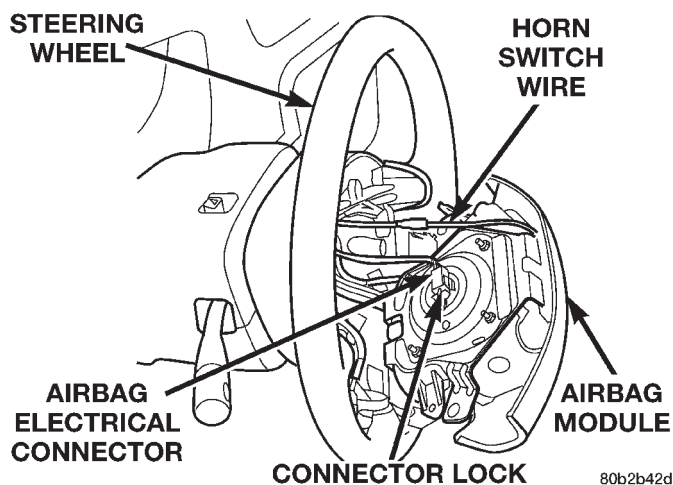
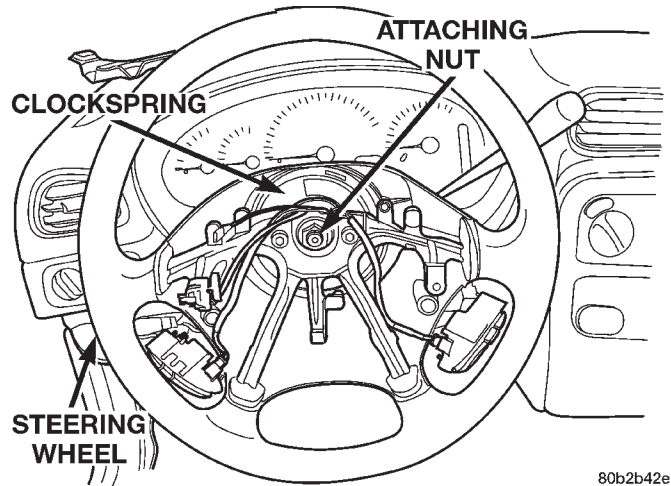

Fig. 11 Airbag Module Electrical Connections
Fig. 12 Steering Wheel Attaching Nut
(11) Remove the airbag module from the steering wheel.
(12) Remove the connector lock from the airbag electrical lead connector (Fig. 11). Connector lock is removed by pulling it straight out of the airbag connector. **Do not twist the connector lock when removing it from the connector.**
(13) Disconnect the electrical connector (Fig. 11) from the back of the airbag module. Connector is removed by pulling it straight out of the airbag module. **Do not twist the connector when removing it from the airbag.**
(14) Remove the horn switch wire (Fig. 11) from the clockspring horn wire.
(15) Remove the steering wheel attaching nut (Fig. 12) from the steering column shaft.
(18) Feed the clockspring wiring leads through the steering wheel (Fig. 12). Position steering wheel on shaft of steering column, making sure the master serration in the wheel hub and on the steering column shaft line up.
(19) Install steering wheel to steering column shaft retaining nut (Fig. 12) and tighten until the steering wheel is fully installed on the shaft. Tighten steering wheel retaining nut to a torque of 61 N·m (45 ft. lbs.).
(20) Turn the key cylinder to the unlock position, unlocking the steering column shaft.
(21) Connect the horn switch wiring lead from the clockspring to the airbag module horn switch wiring lead (Fig. 11).
(22) Install the airbag electrical lead into connector on back of airbag module (Fig. 11). Insert connector locking into airbag connector (Fig. 11). **Be sure electrical connector from clockspring is securely latched into airbag module connector.**